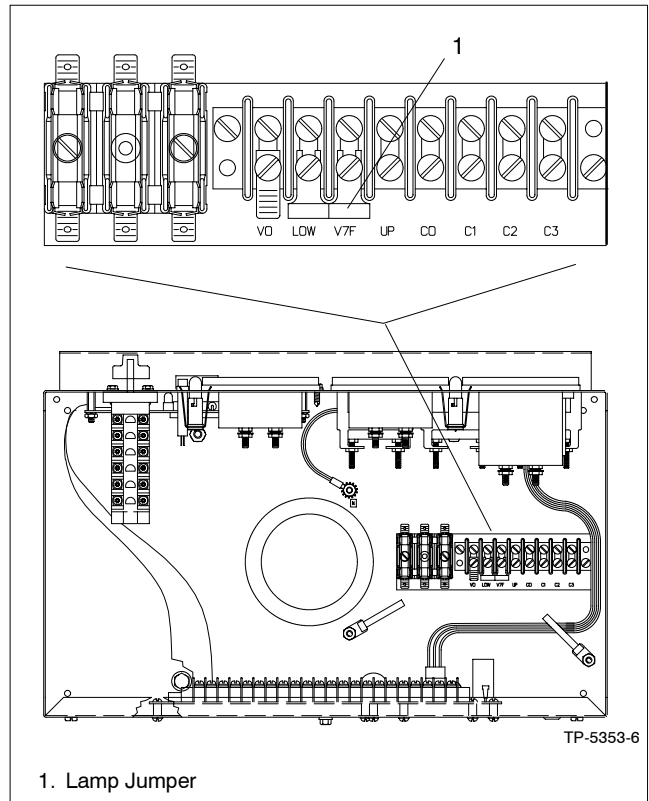

Figure 5-1 Meter Scale Lamp Jumper
4. If the controller has meters, remove the controller cover and reposition the meter scale lamp jumper (see Figure 5-1) to match the position for desired voltage (shown in Figure 5-5 or Figure 5-6). Replace the controller cover.
5. Connect a digital AC voltmeter (or other highly accurate voltmeter) to terminals V0 and V7 on the controller terminal block. See Figure 5-1.